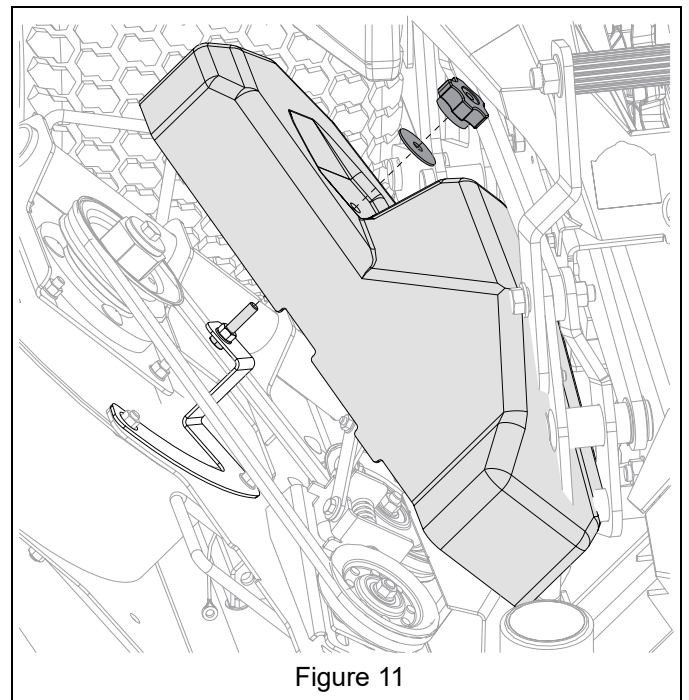

Figure 11
14. Install blower belt cover onto bracket and secure with one 1 1/2" washer and one knob from bagger kit. See Figure 11.